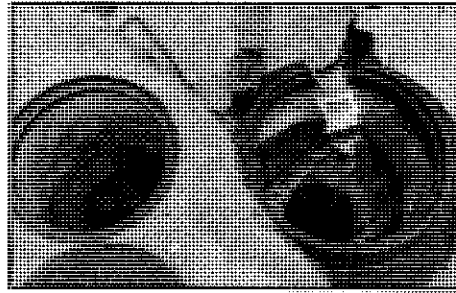

Figure 5
5. Using a sediment probe such as a Sludge Judge®, measure the depth of sediment that has collected in the sump of the vessel. Figure 5.